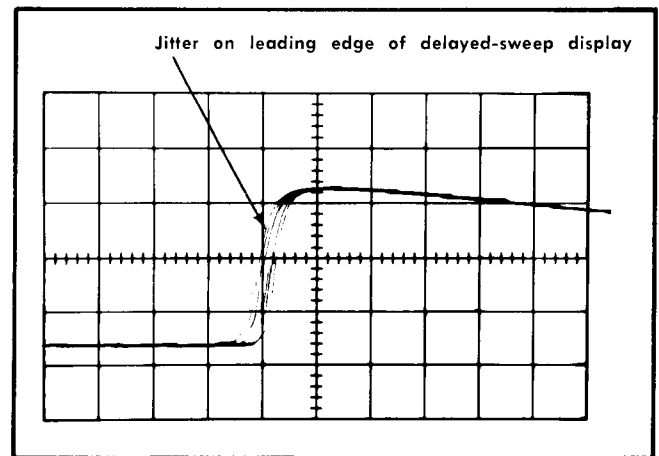

Fig. 6-53. Typical crt display when checking delay-time jitter.
- e. Check—Jitter on the leading edge of the pulse should not exceed 0.5 division (1 part in 20,000); see Fig. 6-53. Ignore slow drift.
- g. Check—Jitter on leading edge of the pulse should not exceed 0.5 division; see Fig. 6-53. Ignore slow drift.